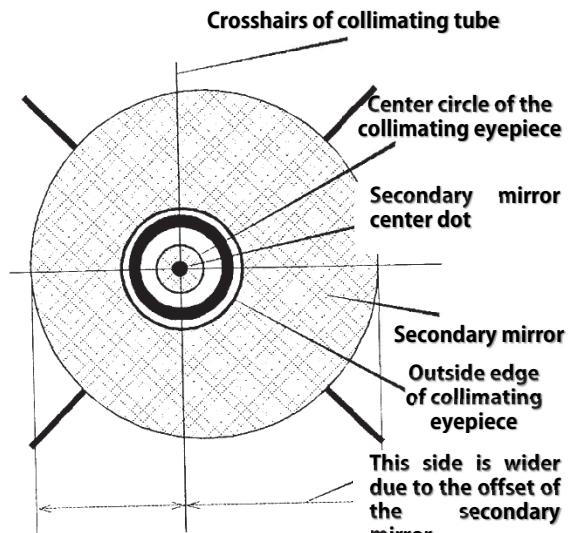

**Fig. C-10**
⑥ In this process the center of the reflection of the collimating eyepiece has been shifted off center as seen on the Fig. C-10. Then it becomes necessary to rotate and tilt the secondary mirror so that the center of the reflection of the collimating eyepiece is centered on the crosshairs. In the Fig. C-10 the secondary mirror is rotated so that the reflection on cross hair and in the Fig. C-11 the secondary mirror is tilted so that the center reflection of the collimating eyepiece is centered on the crosshairs by tightening push screw A. Now the center reflection if the collimating eyepiece is centered over the crosshairs as well as the center dot on the secondary mirror.